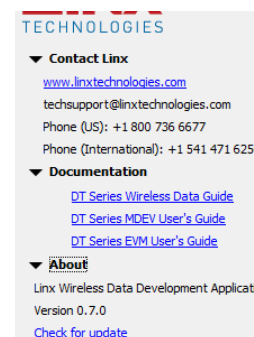

Figure 11: The Master Development System Software Additional Information
1. Clicking the Contact Linx, Documentation and About labels on the left side expands them to show additional information and links to the latest documentation. This is shown in Figure 11.